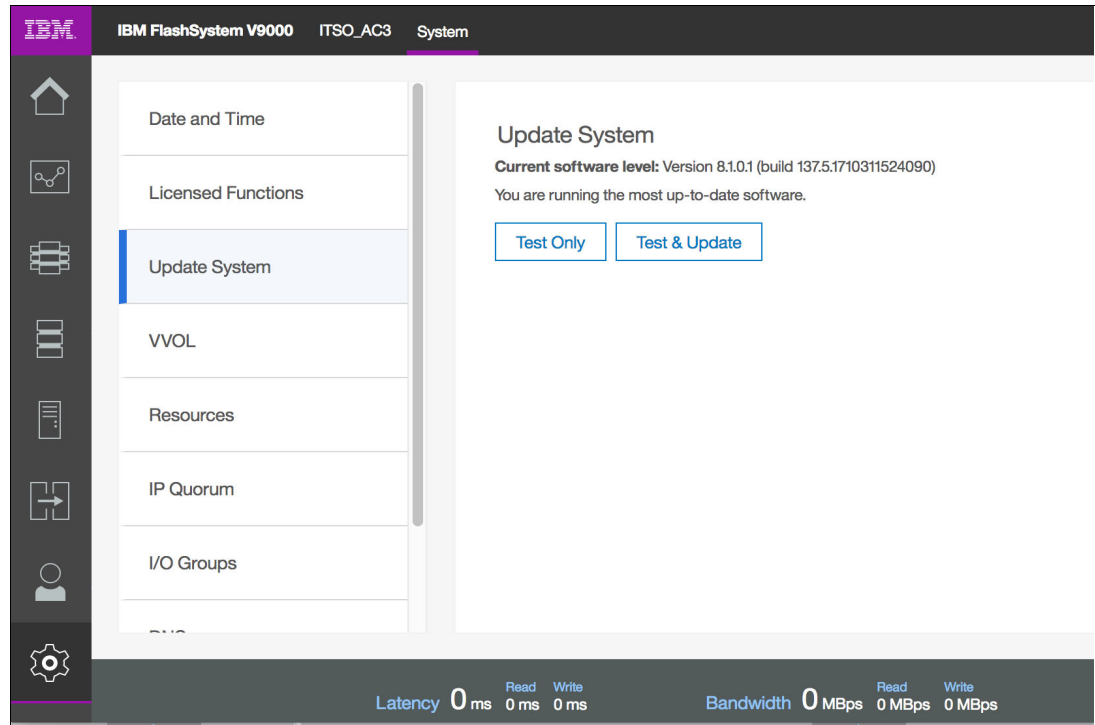

Figure 3-18 Update system
1. To start the concurrent code load (CCL), From the main dashboard screen click **Settings** → **System** → **Update System**. You are presented the screen shown in Figure 3-18.